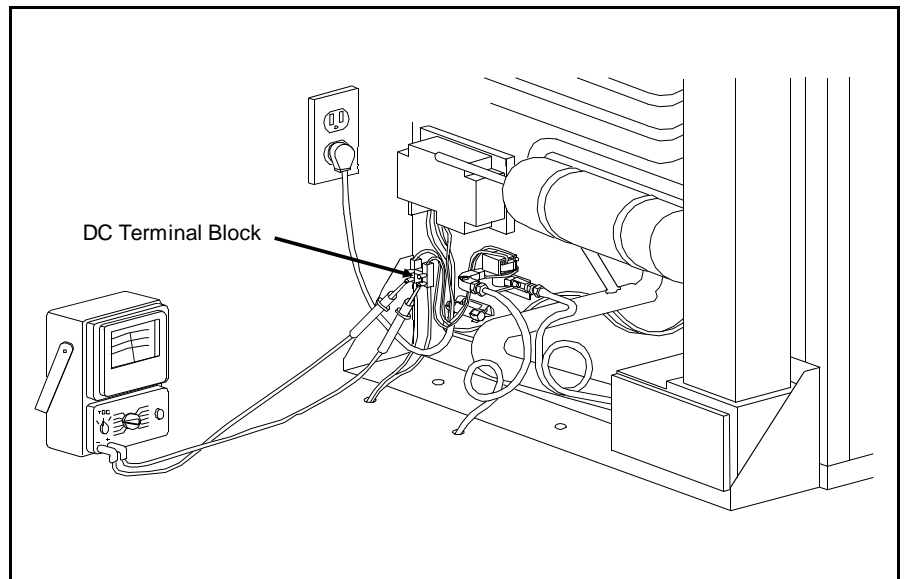
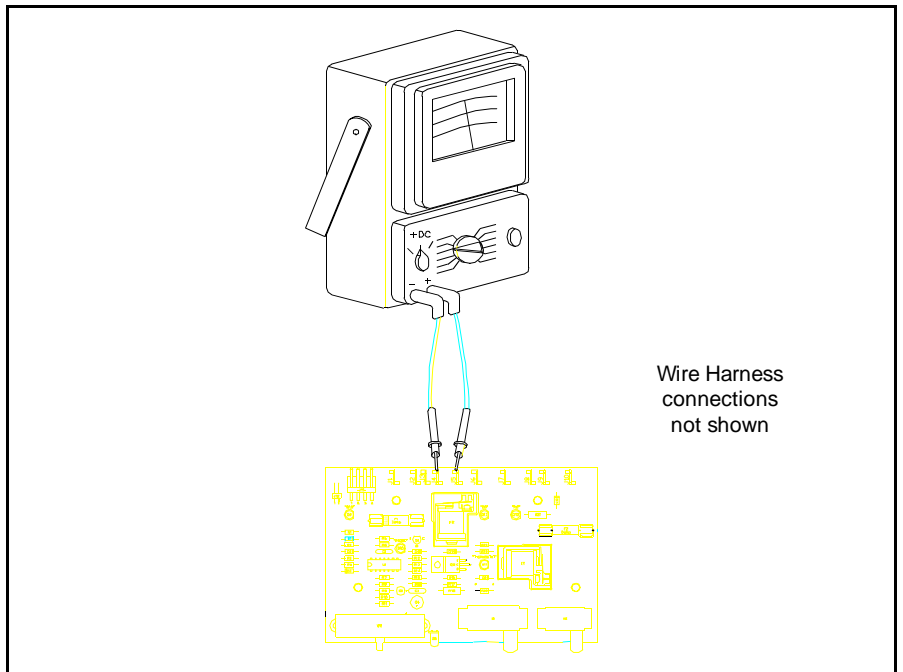

Figure 4.41 12 Volt DC Supply Check
Figure 4.45 12 Volt DC Check
3. Check for 12 volt DC at the DC terminal block as shown in Figure 4.41. If 12 volts not present, investigate/repair source.
- 8. Without disconnecting any of the wire connections to the board, check for 12 volt DC between terminals J-4 (-) and J-5 (+) as shown in Figure 4.45. If 12 volts not present, a bad connection is indicated between the terminal block shown in Figure 4.41 and the PC Board.